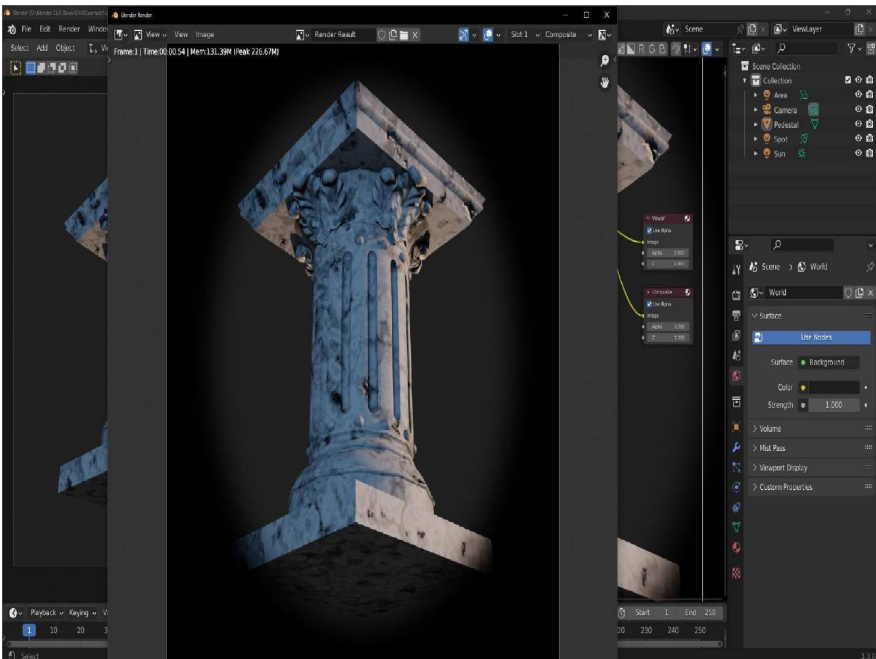

Figure 10.7: Final Pedestal render shown in Blender's Render window, suitable for graphics, portfolios, and marketing
16. Finally, we can press the F12 key to render the image at full resolution as shown in Figure 10.7, where we can save it to our hard drive.